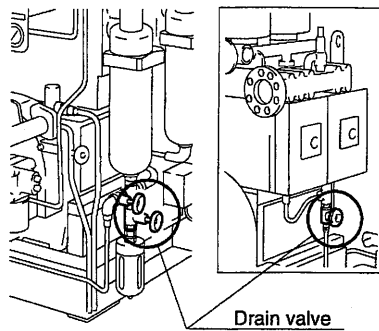

Fig. 21
- (1) Check if anchor bolts are well tightened.
- (2) Check if bolts and nuts on the machine are well tightened.
- (3) Check if the oil is filled up to level H of the oil level gauge. (See page 3-6)
- (4) Check if the valves of each drain valve are fully opened. (Fig. 21)